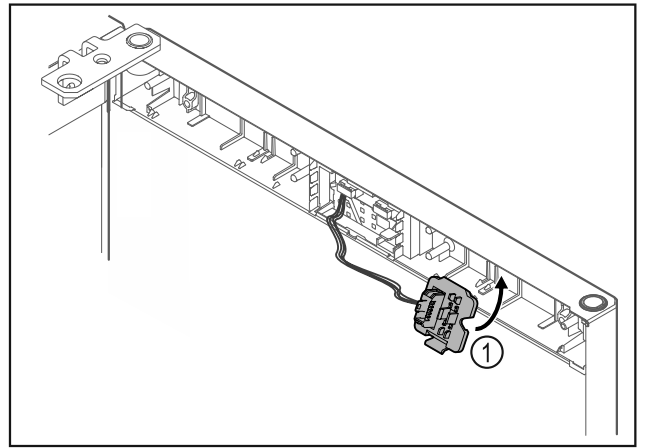

Fig. 23
- ▶ Snap in the plug holder Fig. 23 (1) on the opposite side.